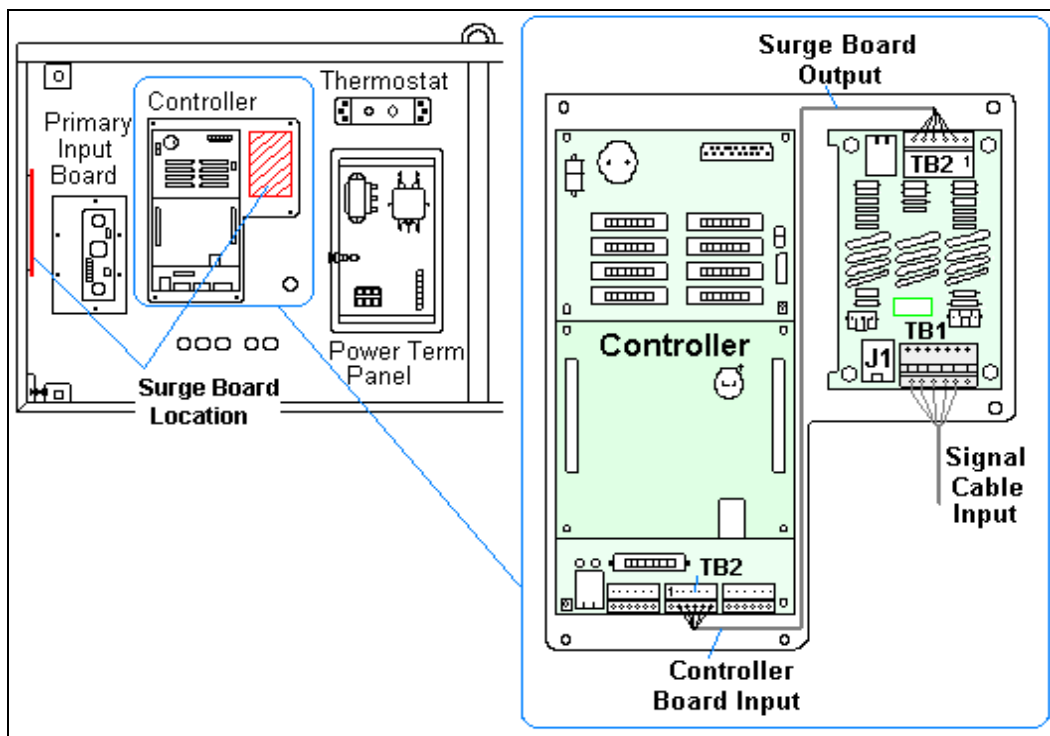

Figure 8: Relocating the Surge Board in Display
5. See **Figure 8** below and **Drawing B-206146** for signal connections in the display.